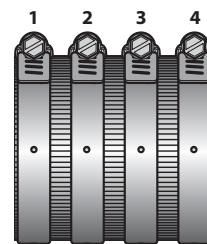

Figure 10
7.9.2. For sizes 5", 6", 8" and 10", tighten the inner clamps 2 and 3 alternately in 20 inch-lb increments until the recommended 60 inch-lb is reached. Then tighten outside clamp 1 and 4 alternately in 20 inch-lb increments until the recommended 60 inch-lb is reached (See Figure 10).